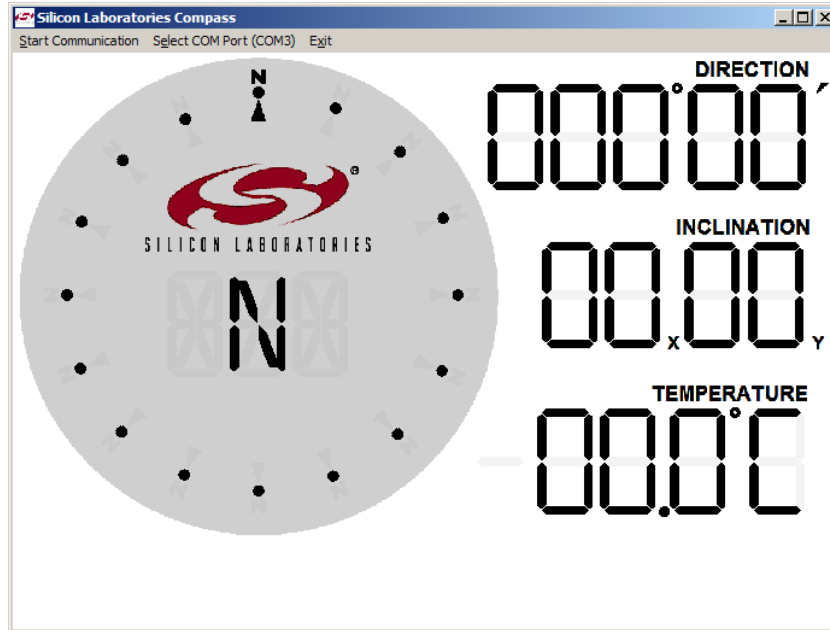

Figure 11. Compass Software Startup
1. Start the compass application by running Compass.exe located by default at "C:\SiLabs\MCU\Digital_Compass_RD\4.PC Software". The application is shown in Figure 11.